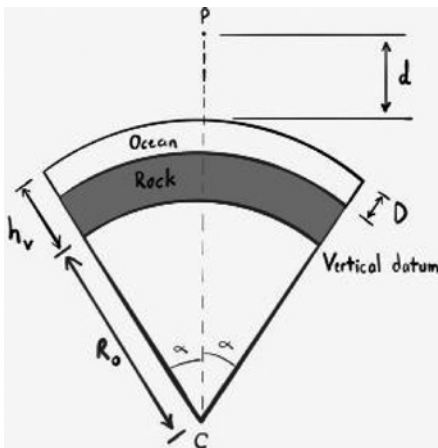

Figure 4. Cross section for the general case of a spherical cap Bouguer.
The inputs to the general spherical cap Bouguer correction (Figure 4) are the height of the surface above the vertical datum (h_v) in metres, the surface clearance of the observation point (d) in metres (≥ 0), the ocean depth (D) in metres (≥ 0), the density of the terrain (ρ_t) in kg/m^3 (> 0), and the density of sea water (ρ_{sw}) in kg/m^3 (> 0).